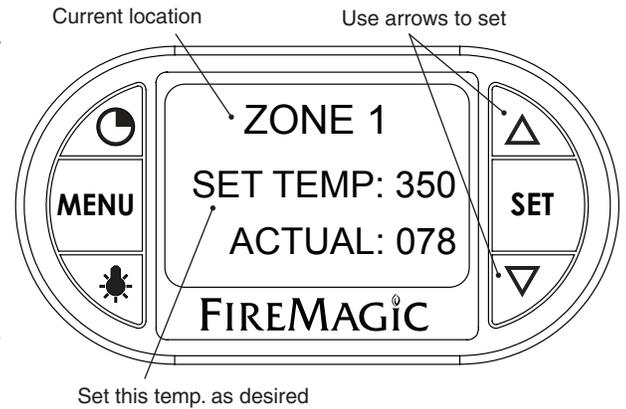

Fig. 31-1 Area temp. screen (zone 1 shown)
2. The selected location's temperature screen will be displayed. Use the arrows to set the desired temp. The actual temp. will also be shown. See Fig. 31-1.